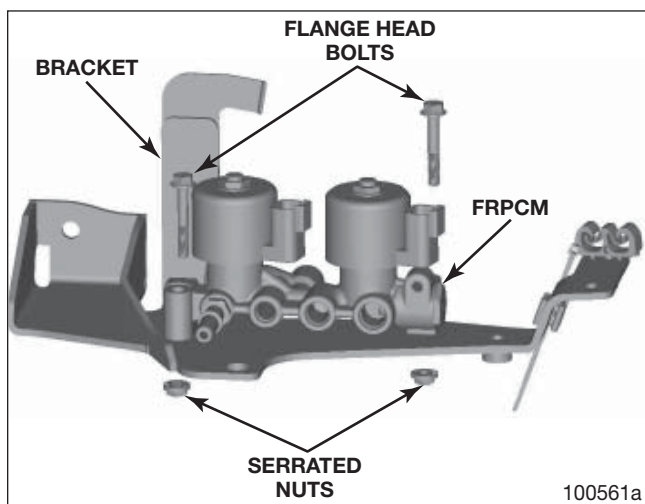

Figure 93 – FRPCM
1. Install the FRPCM on the bracket and secure it with two flange head bolts and serrated nuts. Figure 93. Torque the bolts to 8-12 Nm.